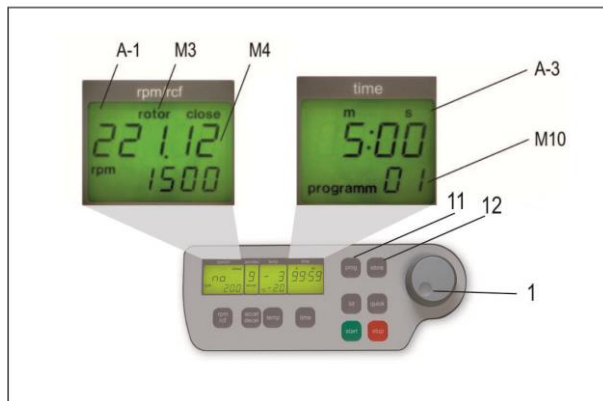

Figure 25
Put the desired rotor into the centrifuge. By pressing the key, "prog" (11), in the display "time" (A-3) appears the word "program", (see Figure 25). With the adjustable knob (1), choose the desired program number.
If a program number is already occupied, in the display "rpm/rcf" (A-1), the words "rotor" (M3) and "22x.xx" (M4) will appear, (see Figure 25). Free program numbers will appear as 0.